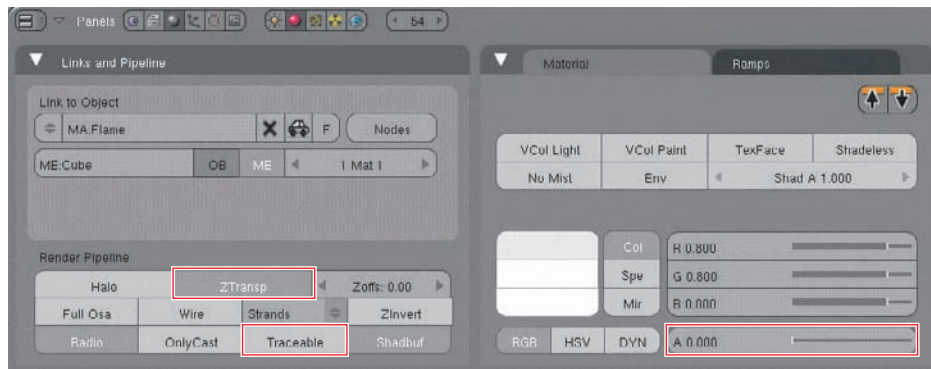

Figure 2.30 Adding the Flame material
5. Materials are the heart of this approach to making flames. Add a material to the emitter object as you normally would, and name the material *Flame*. Set the ZTransp, Traceable, and A (Alpha) values as shown in Figure 2.30. As mentioned previously, alpha values will be governed by textures. It is important to turn off ray traceability (Traceable) for several reasons. For one thing, ray tracing a large number of transparent objects would be very resource-intensive and would render extremely slowly. For another thing, flames are not supposed to